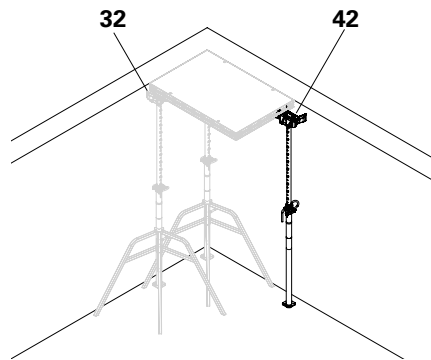

Fig. D2.14
1. Erect two props complete with DFH propheads (32).
2. Hook the DP panel (10) into the DFH propheads.
3. Push the DP panel upwards with the DUO shuttering aid (37) and position the panel on the DUO shuttering aid (37).
4. Place the third prop with the DBH backpropping head (42) at the end of the panel in an inclined position from the inside and align outwards. Spacing 1.275 m. Remove the shuttering aid. (Fig. D2.14)
5. Secure the DP panel (10) on both walls with the DUO 82 wall holder (26).